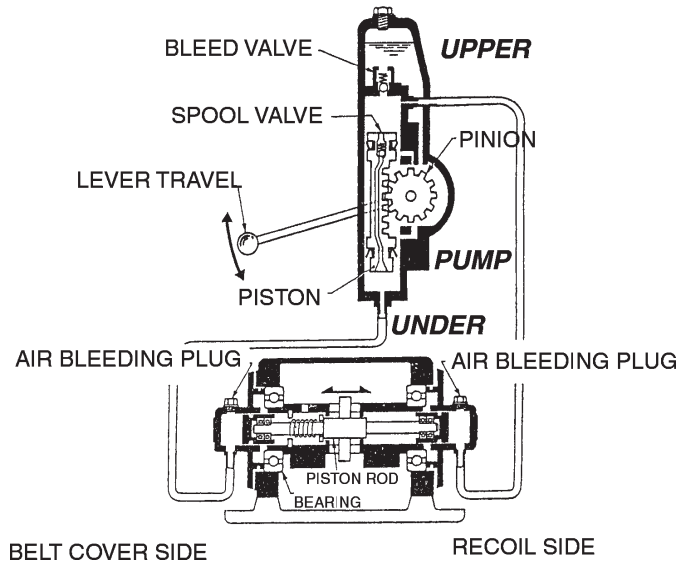

**Figure 21. Hydraulic Oil Maintenance**
3. Remove the reservoir cover at the top of the pump (Figure 21). Remove the bleed valve assembly within the pump using a 17 mm box wrench.